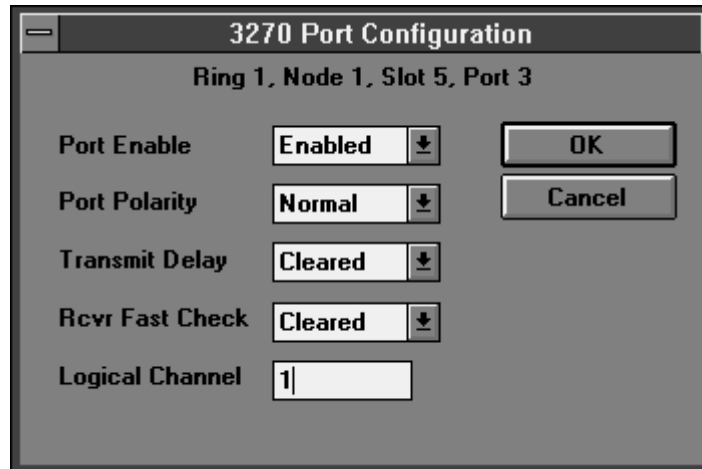

Figure 3-22. 3270 Port Configuration
2. Select Configure from the Tools menu or click on the Configure icon. The port configuration screen appears (refer to Figure 3-22).
4. Select OK to bring up the port configuration screen. Refer to Figure 3-22, Port Configuration.